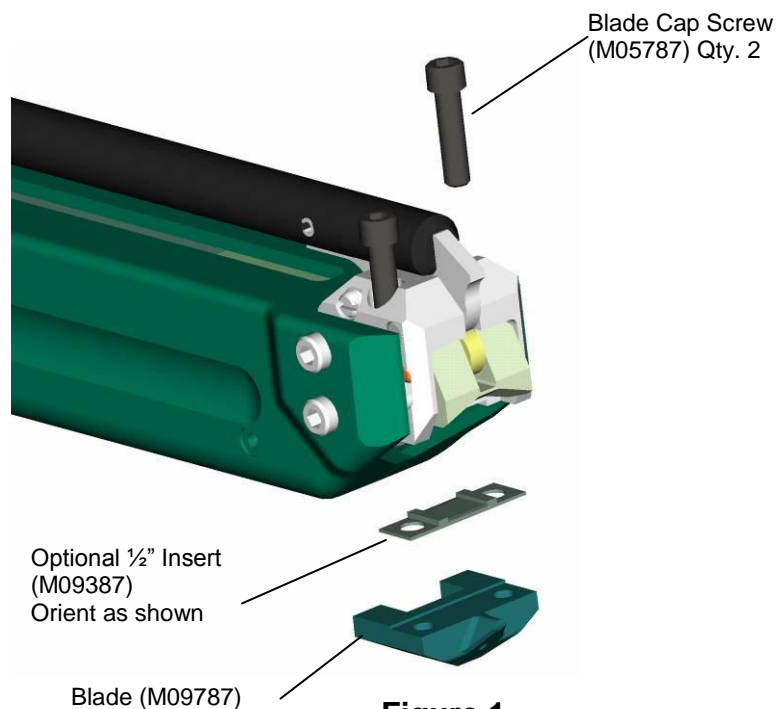

Figure 1
3. Remove the blade from head by removing two cap screws (M05787) from the top of the head. It is not necessary to remove entire head from tool in order to remove blade. (Figure 1) Remove the 3/4" adapter plate from the blade.
4. Align the 1/2" adapter plate (M09387) with the blade (M09787) so that the guide is facing up. Incorrect placement will not allow bands to be inserted into the tool. (Figure 1)